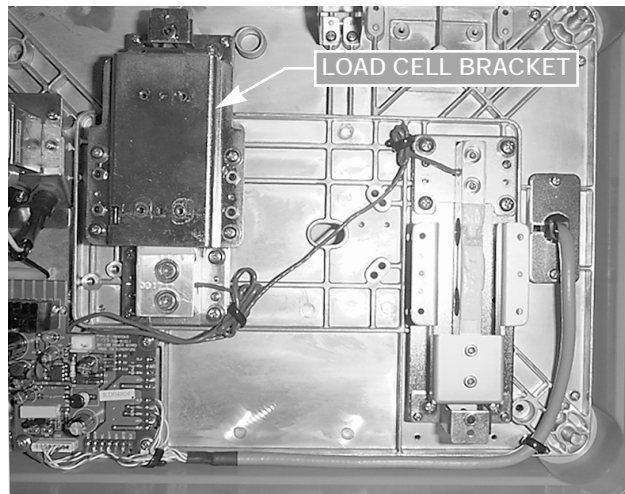

Figure 2-15. Remove Load Cell Bracket
7. Remove two load cell cap screws from load cell bracket (Figure 2-15). Remove load cell bracket.